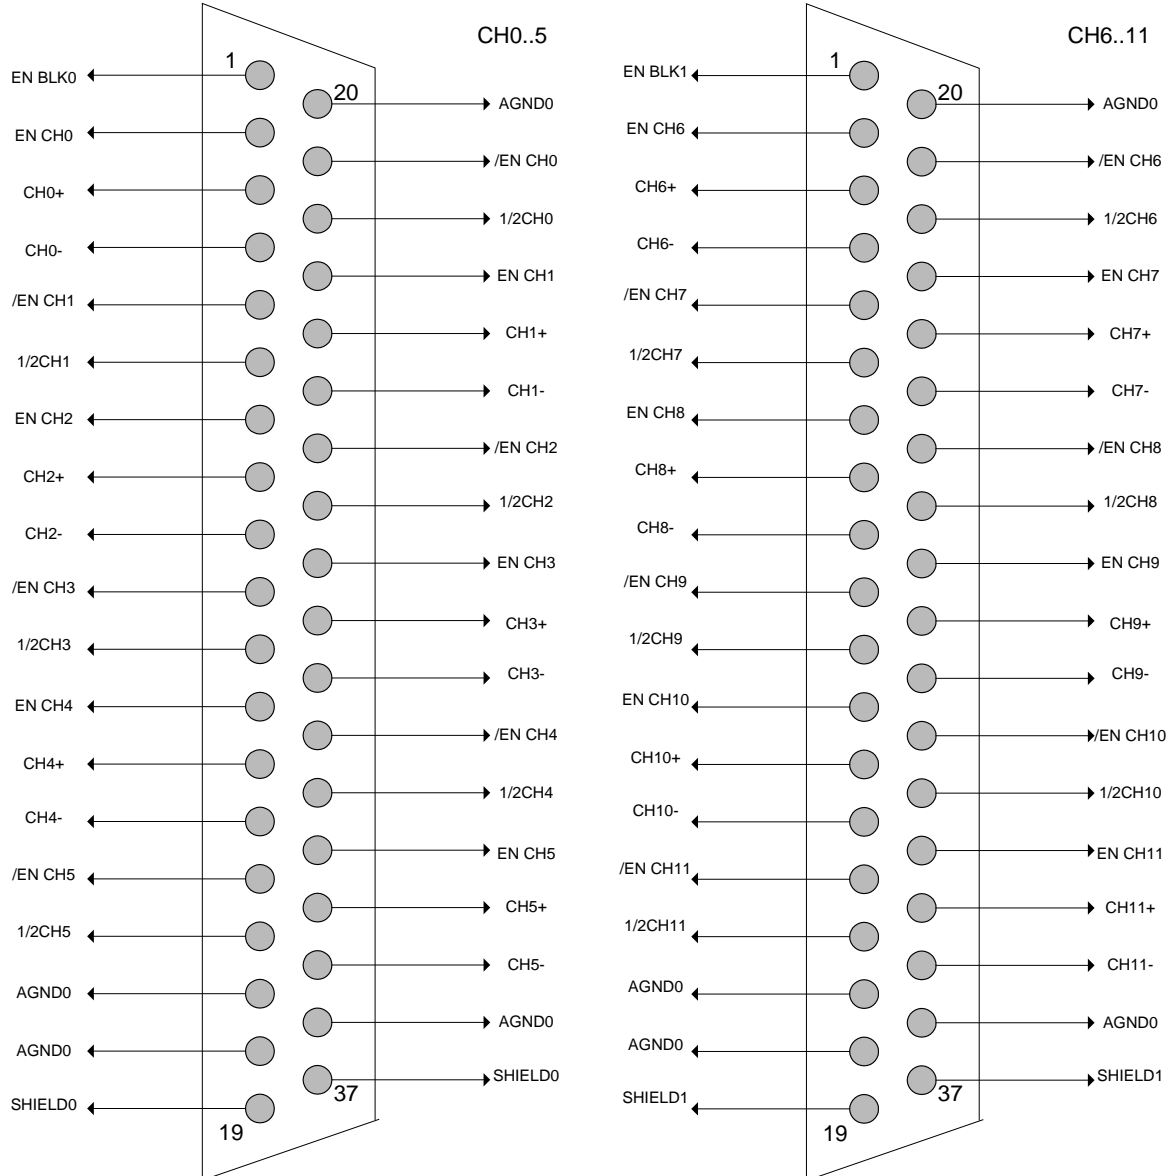

Fig. 3.3 - Mod. A 1511B front panel connectors pin assignment
- *ENMODE0*: if *ENCHx* and */ENCHx* front connector pins (see Fig. 3.3) are not connected, x channel is enabled; if *ENCHx* and */ENCHx* pins are short circuited, channel x is disabled